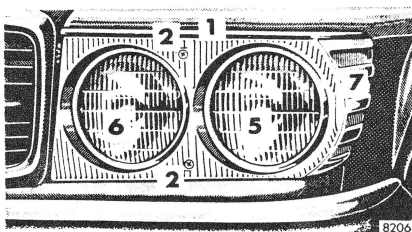

Fig. 3
1 Loosen screws (2) and detach cover (1) (Fig. 3)